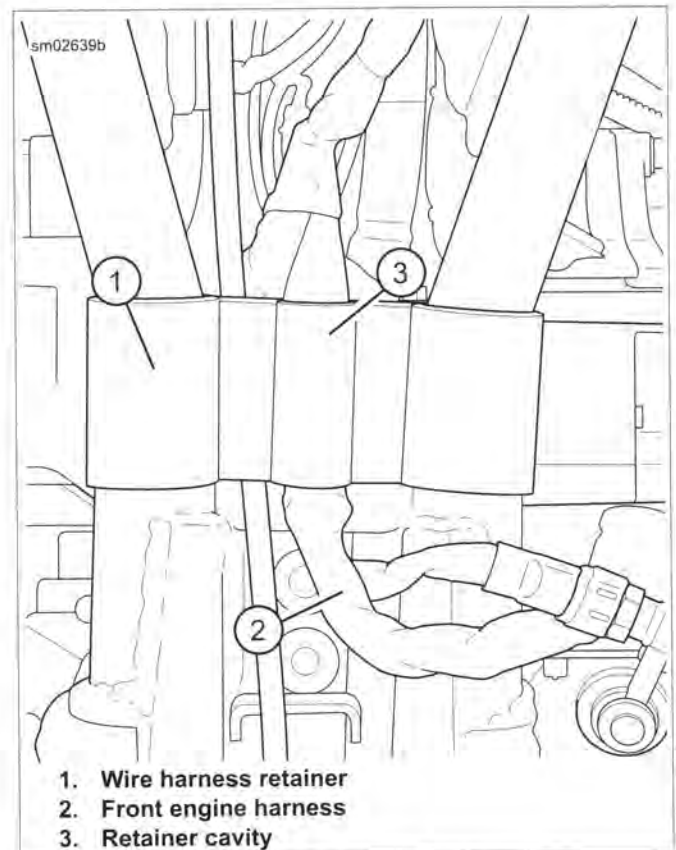

Figure 2-164. Harness Retainer
- See Figure 2-164. Route the sensor harness in the same retainer cavity (3) as the front engine harness (2).